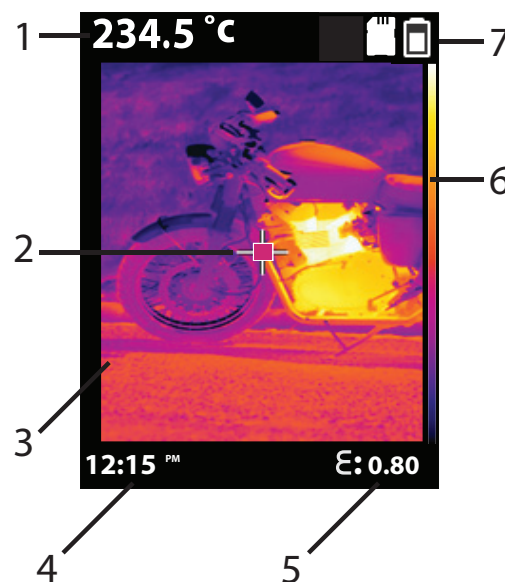

Fig 3-2 Main Display
- Review the display example in Fig 3.2 earlier in this section. Also review Sections 4.2 *IR Thermometer Measurement Overview*, Section 4.3 *Distance-To-Spot Ratio*, and Section 4.4 *IR Imager Overview*.